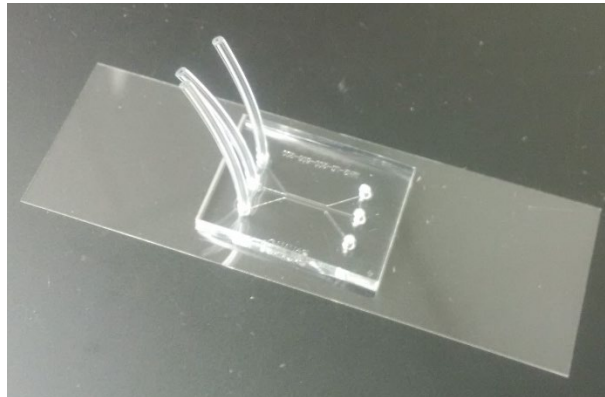

Figure 2. A SynVivo linear device with Tygon tubing in Ports B, D, F. Inlet Ports A, C and E are free of tubing.
- a. Leave 3 inlet ports free of tubing (Ports A, C, E; **Figure 2**).